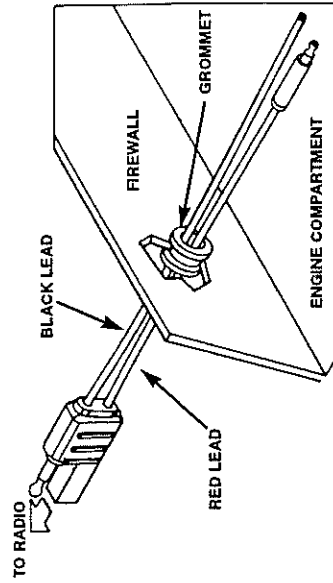

Figure 1. Power Cable Routing Into Engine Compartment
3. From inside the vehicle, feed the red and black leads (without lugs attached) through the access hole and into the engine compartment. (See Figure 1.)